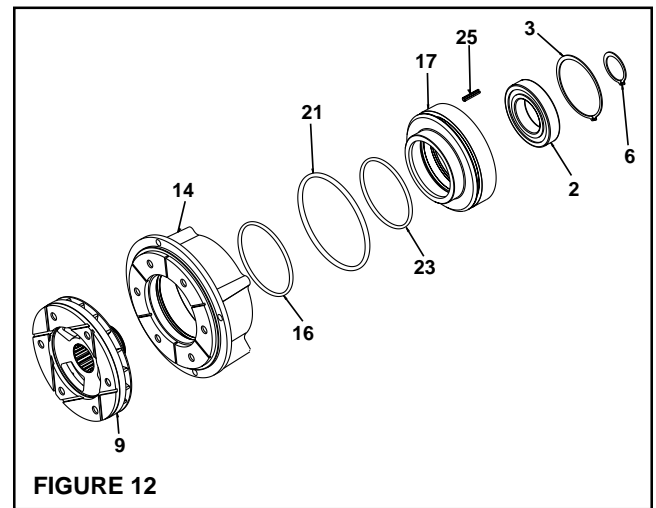

FIGURE 12
4. Remove the Retaining Ring (Item 6) from the Splined Disc (Item 9) (See Figure 12).
5. Press the Splined Disc (Item 9) out of the Bearing (Item 2) and Piston (Item 17) (See Figure 12).
6. Remove the Piston (Item 17) from the Air Chamber (Item 14) (See Figure 12).
7. Remove the old O-ring Seals (Items 16, 21 & 23) from the Piston and Air Chamber (See Figure 12).
8. Remove the Retaining Ring (Item 3) from the Piston (Item 17) (See Figure 12).
9. Press the Bearing (Item 2) out of the Piston (Item 17) (See Figure 12).
13. Supporting the Piston (Item 17) and pressing on the outer race of the new Bearing, press the new Bearing into the Piston (See Figure 12).
20. Apply a drop of Loctite® 242 to the threads of the Socket Head Cap Screws (Item 8) (See Figure 12).